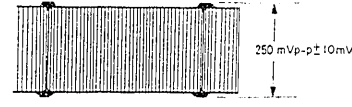

Fig. 4-113
(8) Record Luminance Signal Level Adjustment (Figs. 4-113, 4-151)